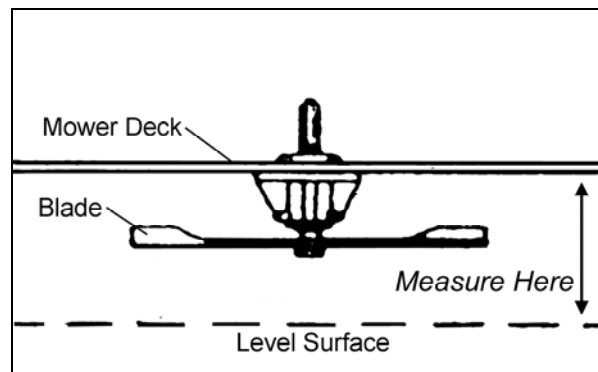

Figure 13
- Measure the distance from the ground to the deck at the front and back of the deck (*Figure 13*).
- Measure the distance from the ground to the deck on the left and right sides of the deck (*Figure 13*).